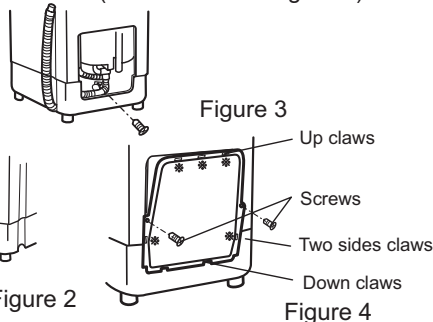

Figure 3
3. Extend the drain hose from the other side. And then fix the screws of the drain hose rack. And fix the drain hose onto the cabinet with the drain hose rack. (As indicated in Figure 3).